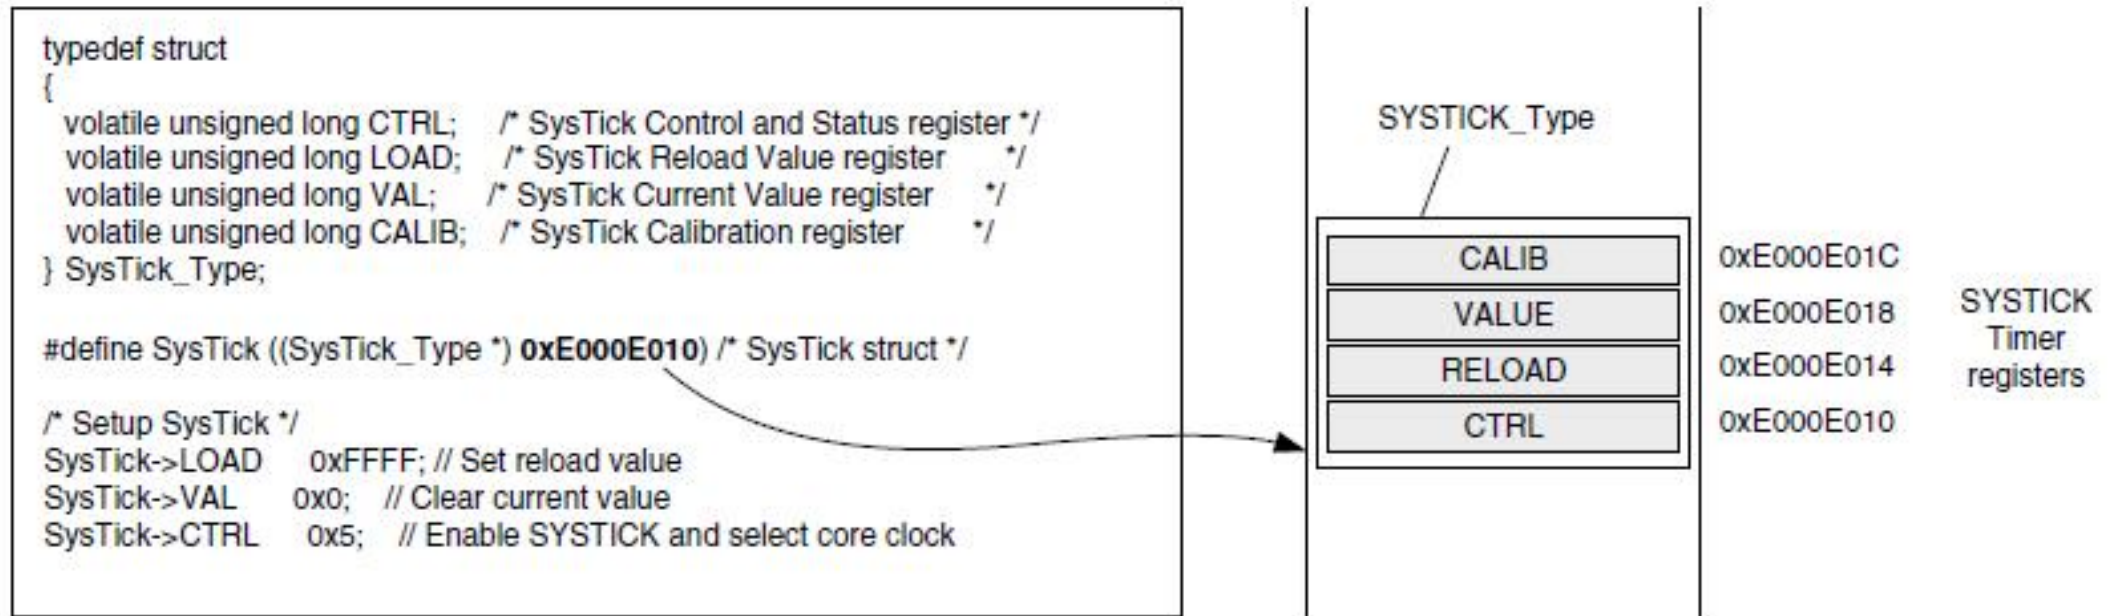

FIGURE 10.4
- This is illustrated in Figure 10.4.